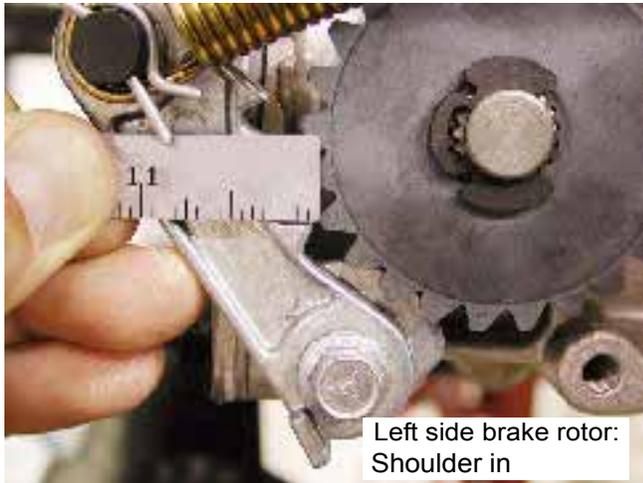

Figure 8.14
- 8.14. Move the parking brake lever to the OFF position. There should be roughly 1/16" clearance between the lowest tooth on each brake pawl and the nearest tooth on the rotor. See Figure 8.14.